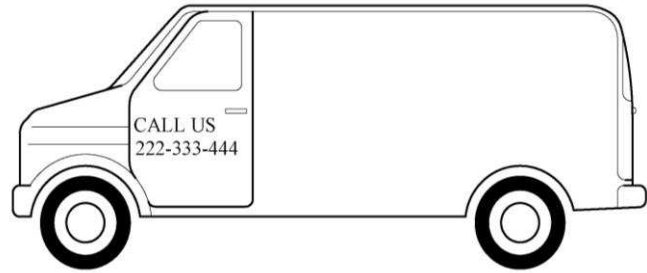

Figure 4a
4. Spic-and-Span is a newly setup mobile car wash business. As part of the marketing campaign, the management decided to commission a design for a van wrap advertisement. They want the signage to be colourful and with a clear message to make sure that people can easily see it from the road. Their strong selling points are their punctuality, efficiency and professionalism. The profile of the company van is shown in Figure 4a.